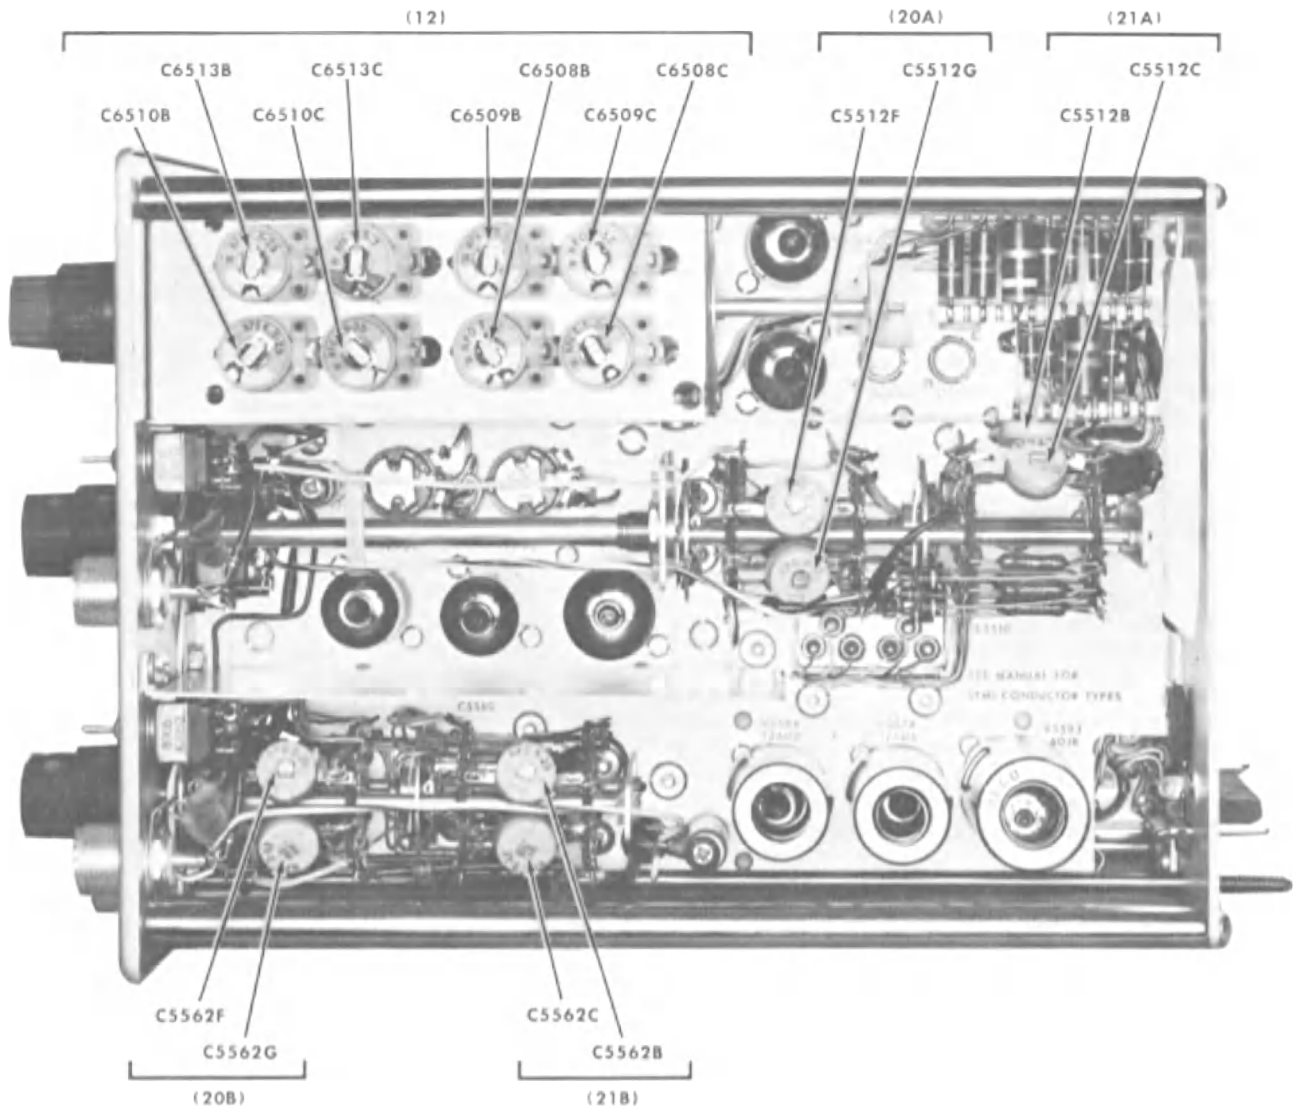

Fig. 7-3. Location of calibration adjustments. Numbers in parenthesis refer to steps in adjustment procedure.
b. Set the VOLTS/CM switch as follows, and adjust the indicated capacitors. Adjust the "B" capacitors for optimum flat-top, and "C" capacitors for optimum square corners. See Fig. 7-3 (12).